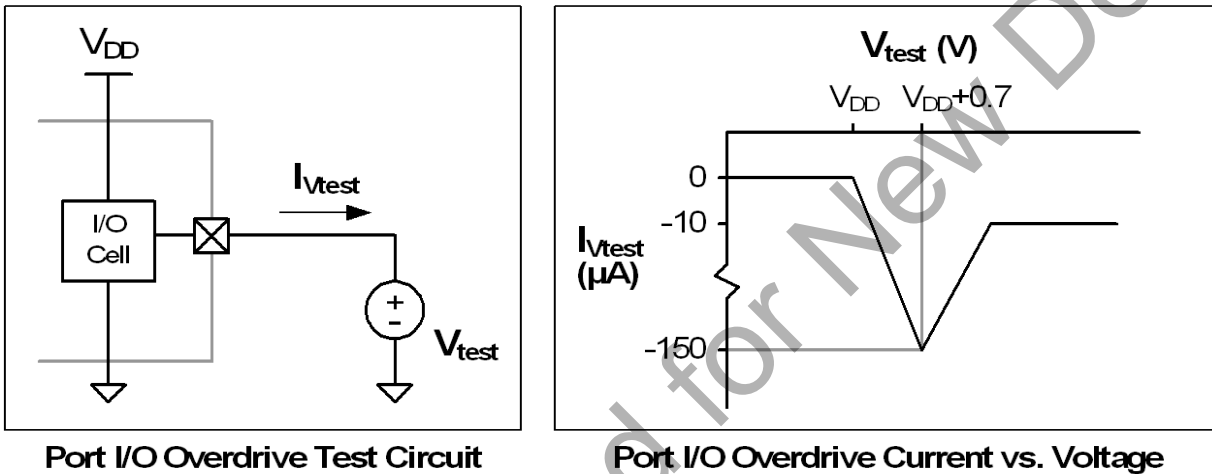

Figure 23.3. Port I/O Overdrive Current
**Important Note:** In a multi-voltage interface, the external pull-up resistor should be sized to allow a current of at least 150  $\mu\text{A}$  to flow into the Port pin when the supply voltage is between (VDD + 0.6V) and (VDD + 1.0V). Once the Port pin voltage increases beyond this range, the current flowing into the Port pin is minimal. Figure 23.3 shows the input current characteristics of port pins driven above VDD. The port pin requires 150  $\mu\text{A}$  peak overdrive current when its voltage reaches approximately (VDD + 0.7 V).